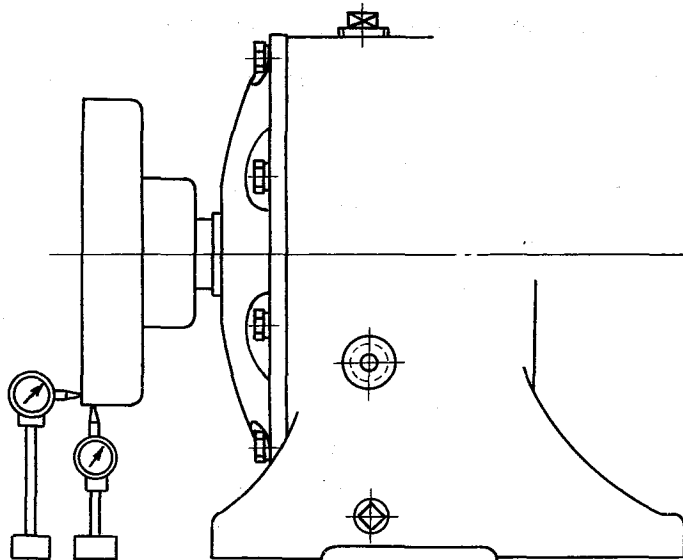

Fig. 1
- (1) Fix the coupling flange in such a manner that its side and runout wobbblings do not exceed 0.05 mm each. (Fig. 1)